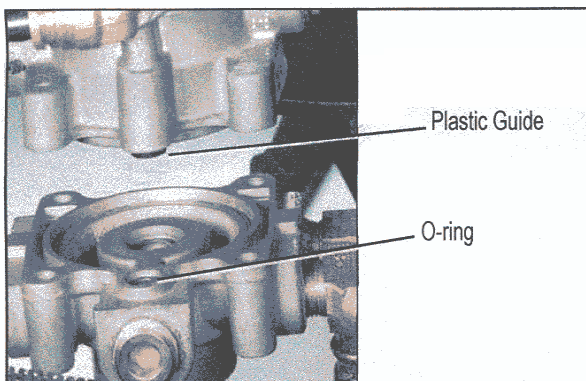
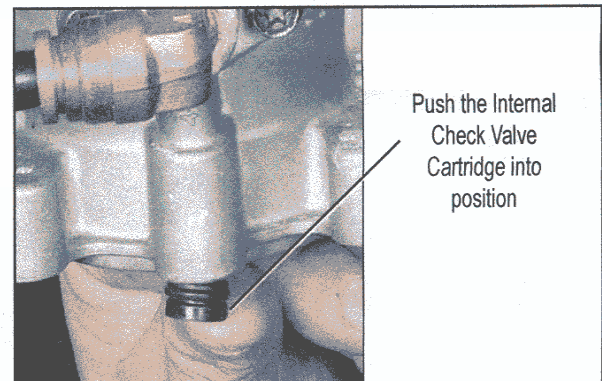

Figure 6 - PLASTIC GUIDE AND O-RING SEAL
Figure 8 - CARTRIDGE INSTALLATION
6. Locate the plastic guide in the upper body of the SR-7™ valve directly above the supply port. The o-ring seal from the lower body may stick to the plastic guide when the bodies are separated. If so, remove it from the guide and place it back into the lower body. An o-ring has been included in this kit in the event that the o-ring is lost during servicing. Refer to Figure 6.
1. Insert the replacement cartridge in the bore where the check valve, spring and plastic guide were removed. Note: Be sure to remove the replacement cartridge from its shipping tube prior to installation. Push the cartridge into position until it stops as shown in Figure 8. A portion of the cartridge will stick out as shown in Figure 6. **DO NOT FORCE THE CARTRIDGE FURTHER INTO THE BORE.**